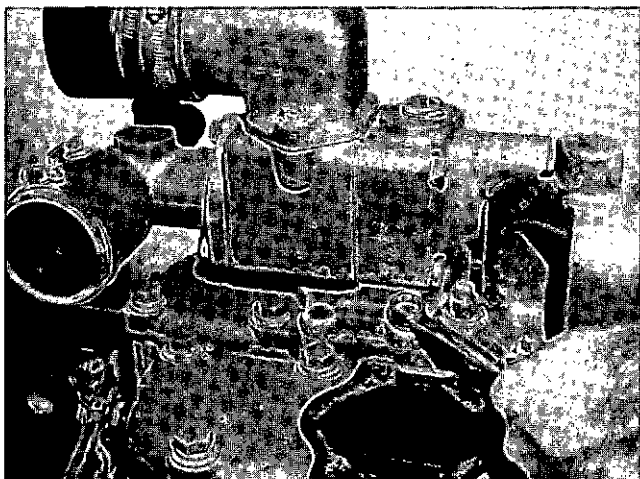

Fig. 0-20, V40053. Removing thermostat housing
b. Remove capscrews from thermostat housing. Fig. 0-20. Lift housing from exhaust manifold.